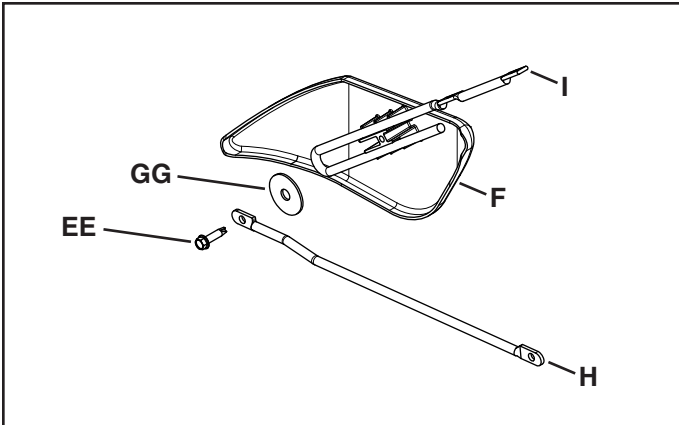

**FIGURE 6**
**STEP 6: (SEE FIGURE 6)**
- Insert the end of the cable into the flow control bail (E).
- Attach the flow control assembly (B) using two 1/4-20 nylock nuts (FF).